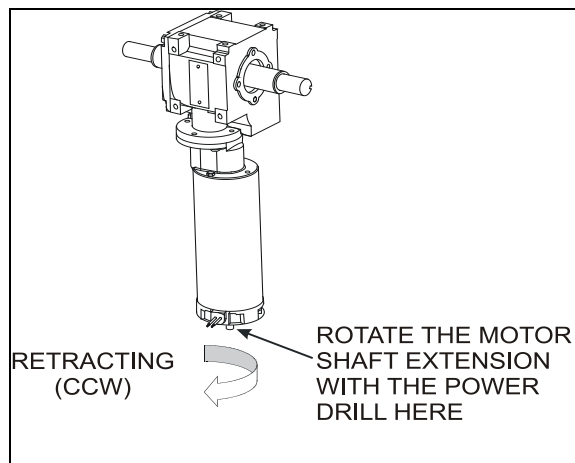

FIGURE 92: SLIDE-OUT MOTOR ROTATION
- Rotate the slide-out motor shaft extension with the power drill until the slide-out comes to its closed position (Figure 92).